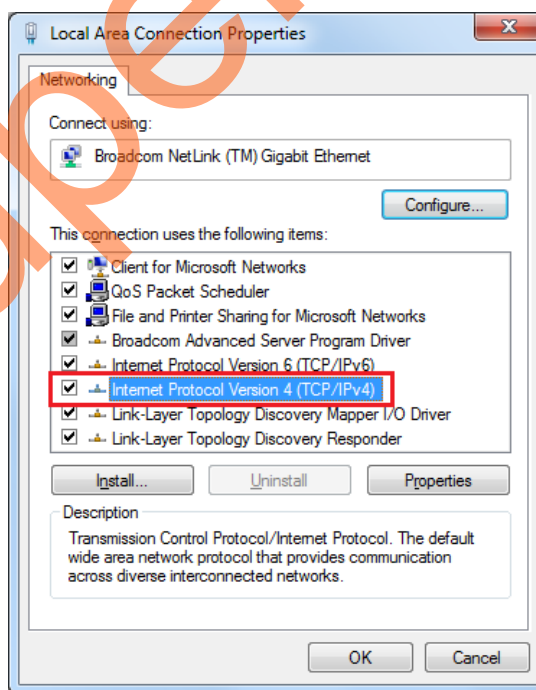

Figure 3 • Host PC TCP/IP Settings
3. If the device is connected in static IP mode and the board static IP address is 169.254.1.23, change the host TCP/IP settings to reflect the IP address. Figure 3 shows the host PC TCP/IP settings.